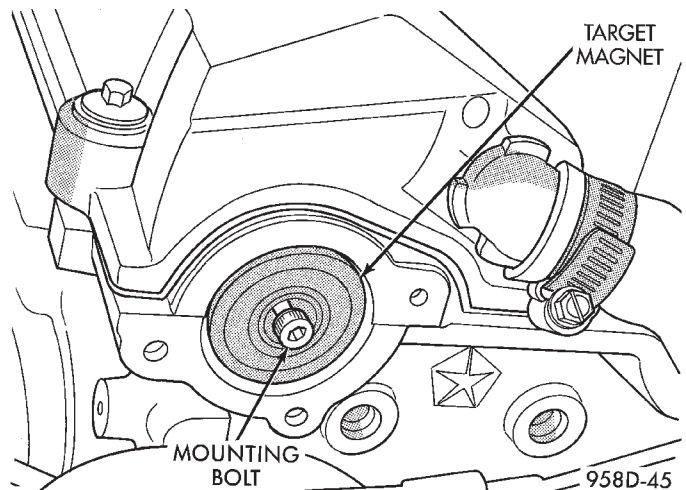

Fig. 43 Target Magnet Removal/Installation
- (3) Remove camshaft position sensor mounting screws. Remove sensor.
- (4) Loosen screw attaching target magnet to rear of camshaft (Fig. 43).